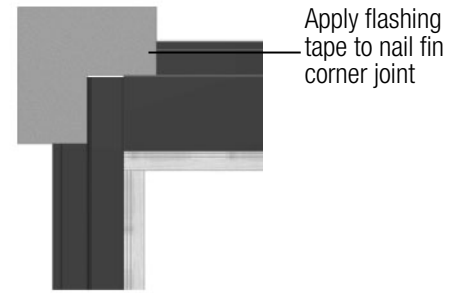

FIG. 12
- Apply flashing tape over nailing fin corner joint. (Fig. 12)